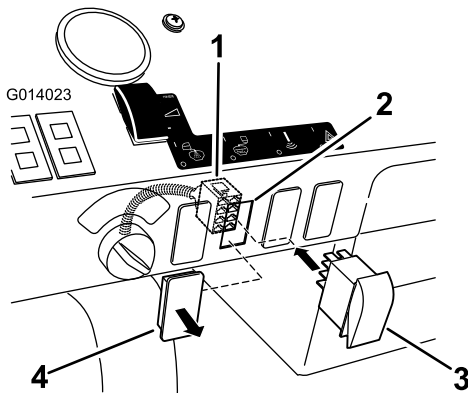

Figure 29
1. Locate the plug for the eductor switch on the dash (Figure 29). It second plug over from the ignition key.
2. Remove the plug from the dash (Figure 29).
4. Install the switch to the box connector, through the dash with the LED on the switch in the upper position (Figure 29).